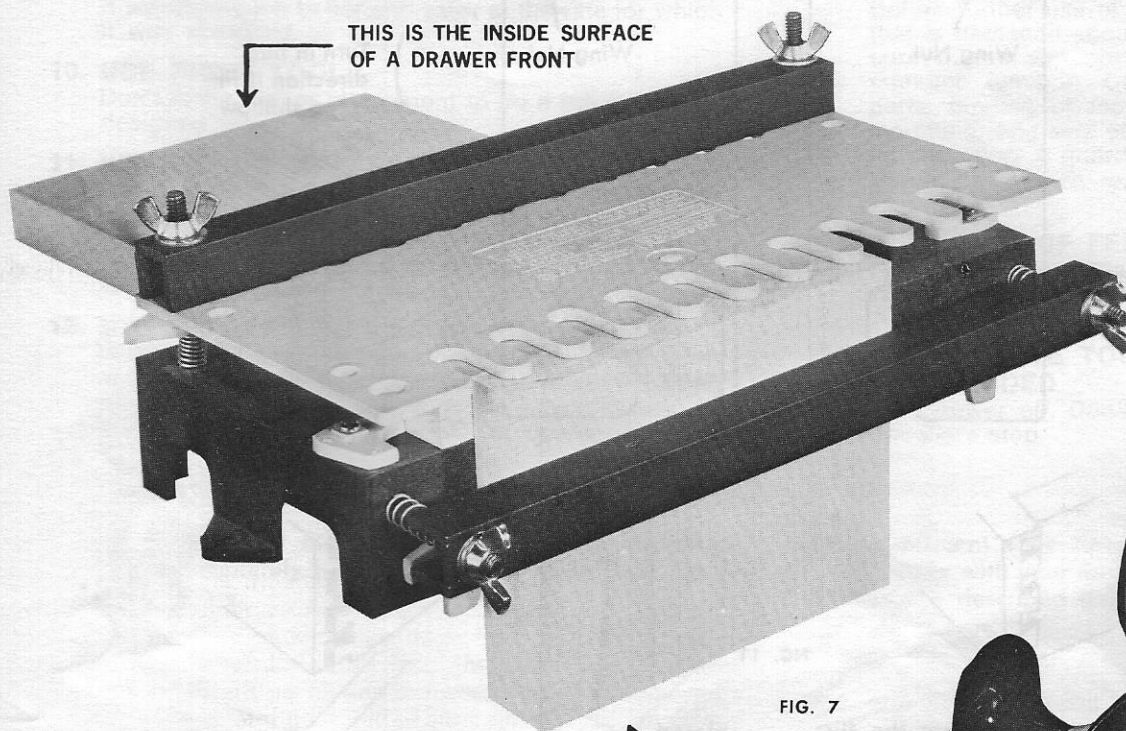

FIG. 7
3. Place the drawer side and front in the fixture as shown in Fig. 7. The drawer side and front must be against the stop blocks and the end of the drawer side must be flush with the top surface of the drawer front. Tighten all wing nuts to clamp drawer side and front to fixture.
6. If fit is too shallow (Fig. 11), loosen wing nuts as described in Step 2 and turn both depth adjustments an equal amount in a clockwise direction (Fig. 10). One ratchet "click" will make the depth of cut in the drawer front (Fig. 7) approximately 1/64" deeper. Tighten wing nuts before making cut. If fit is too deep (Fig. 11), loosen wing nuts as described in Step 2 and turn both depth adjustments an equal amount in a counterclockwise direction (Fig. 10). One ratchet "click" will make the depth of cut in the drawer front (Fig. 7) approximately 1/64" shallower. Tighten wing nuts before making cut. A number of trial cuts may be necessary to obtain the correct depth of cut.